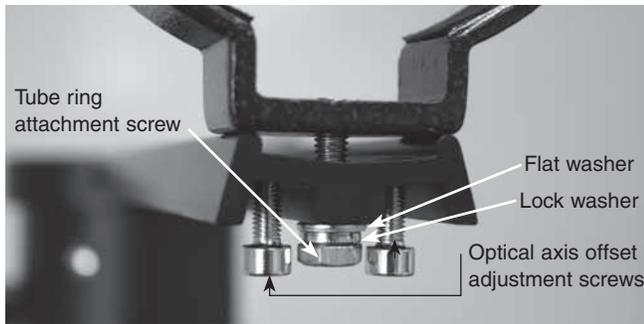

Figure 3. The tube ring mounting plate.
1. Attach the tube mounting rings to the tube ring mounting plate using the screws that come with the tube rings. The screws should go through the center holes in the ends of the mounting plate and rethread into the tube rings. Note that the side of the mounting plate with the central “groove” will be facing up (**Figure 3**). Use a small wrench to secure the tube rings to the mounting plate.
*Note: The optical axis offset adjustment screws should be oriented so that the threaded shaft extends upward through the top surface of the tube ring mounting plate. If the tube ring mounting plate arrives with the optical axis offset screws installed backwards, reverse their orientation before proceeding (**Figure 3**).*